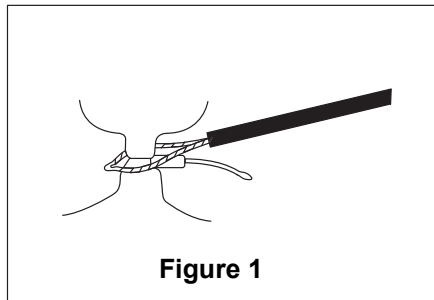

Figure 1
- When the tissue is to be resected using an electrocautery snare after ligature, make sure that the electrocautery snare and loop are not in contact with each other before activating the output. If the output is activated when the electrocautery snare and loop are in contact as shown in Figure 1, the loop could be cut, resulting in patient injury, such as hemorrhages or mucous membrane damage. It may also fuse the loop and electrocautery snare together, preventing removal of the electrocautery snare.